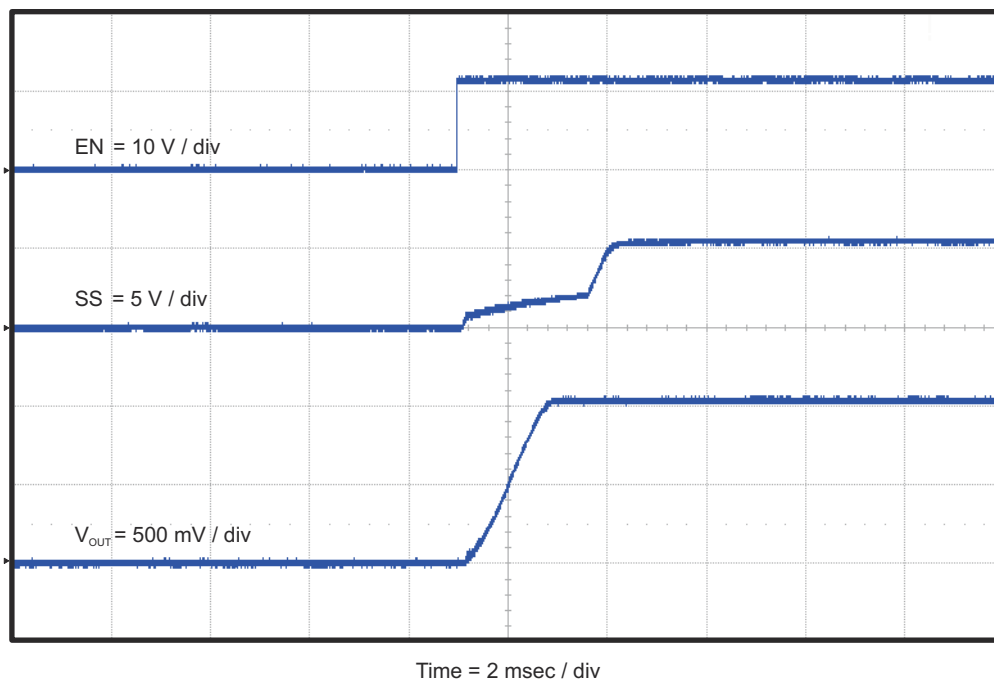

Figure 4-10. TPS54227EVM-686 Start-Up Relative to EN
The TPS54227EVM-686 start-up waveform relative to enable (EN) is shown in Figure 4-10.